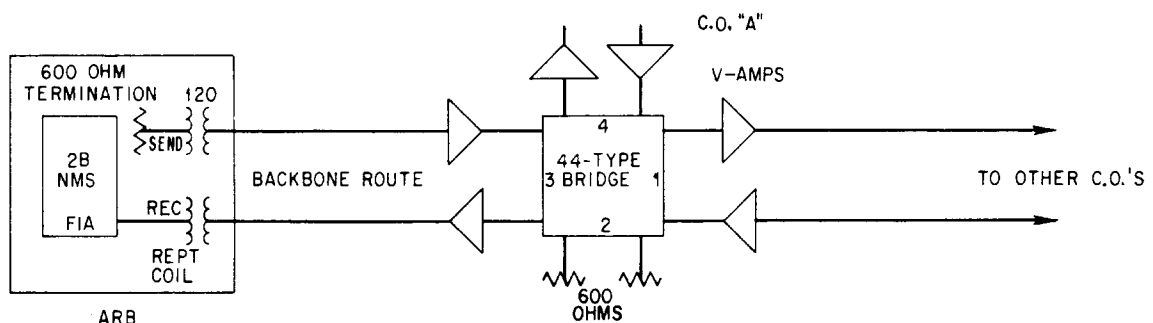

Fig. 4 — Test Set Up for Measuring Noise
6.01 Measurements of the over-all steady noise should be made at ARB headquarters using the 2B Noise Measuring Set in accordance with practices covering the use of the set. The over-all circuit should be in the normal operating condition. Fig. 4 shows the test set up for a typical circuit. The drop side of the repeat coil at ARB headquarters should be connected to the LINE jacks or terminals of the 2B set with the switch on FIA weighting. The circuit should be monitored for crosstalk during the measurement. The presence of intelligible crosstalk is an indication of trouble. The steady noise measured at ARB should not exceed 35 dba, FIA weighting.